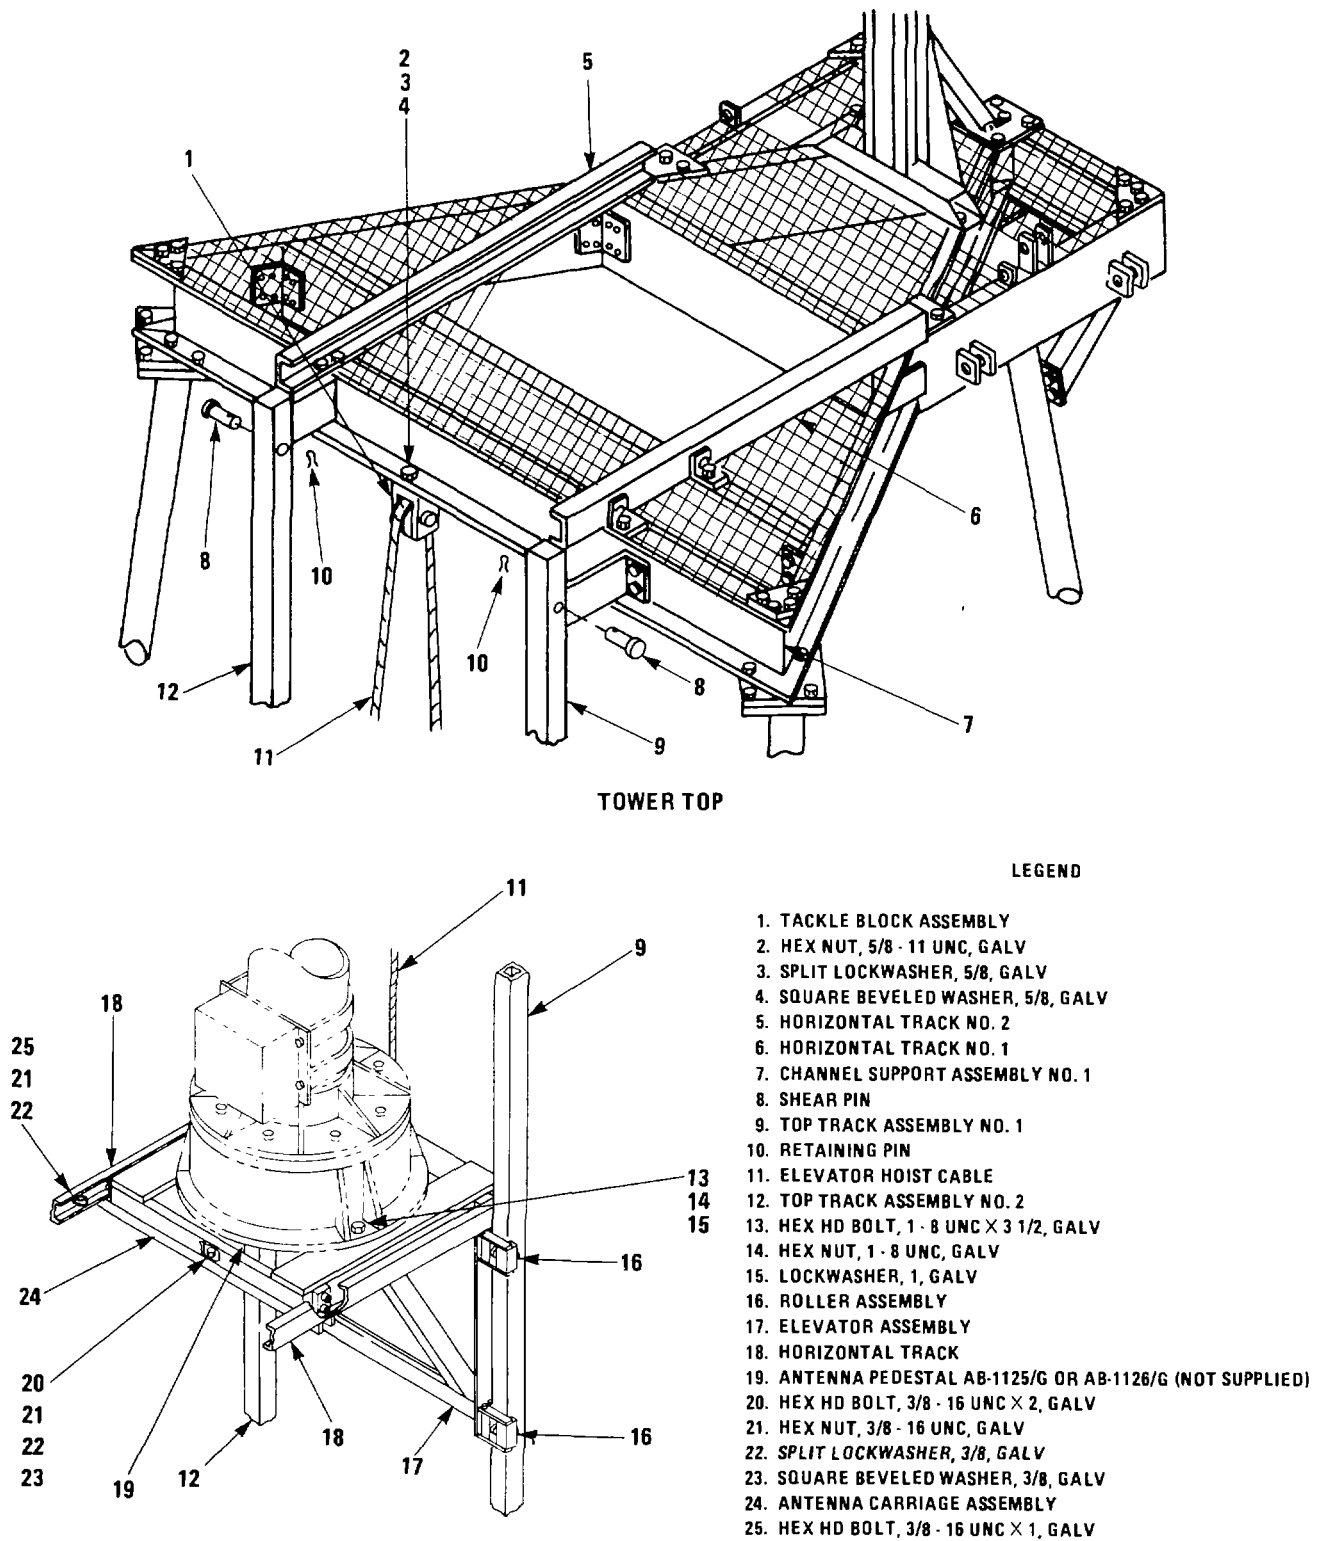
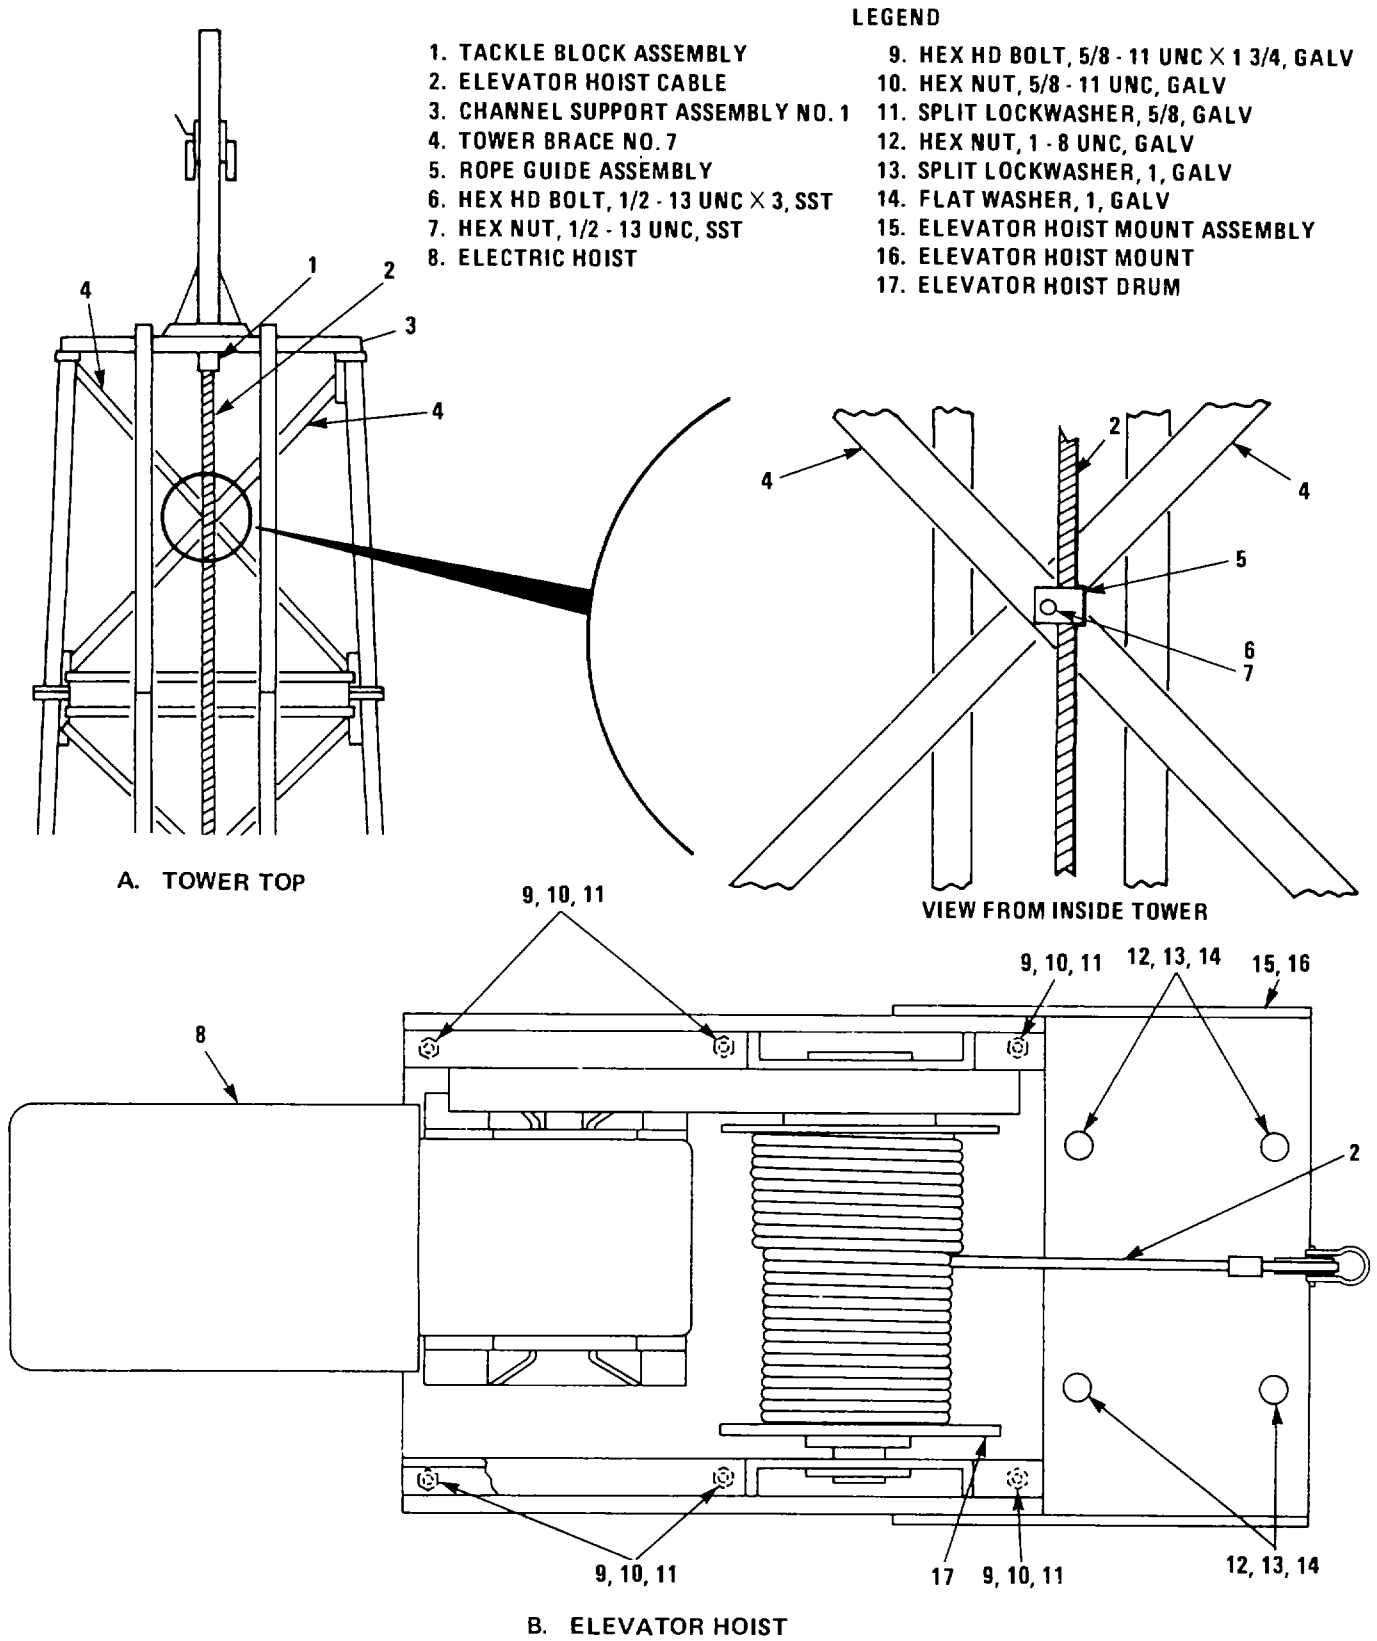
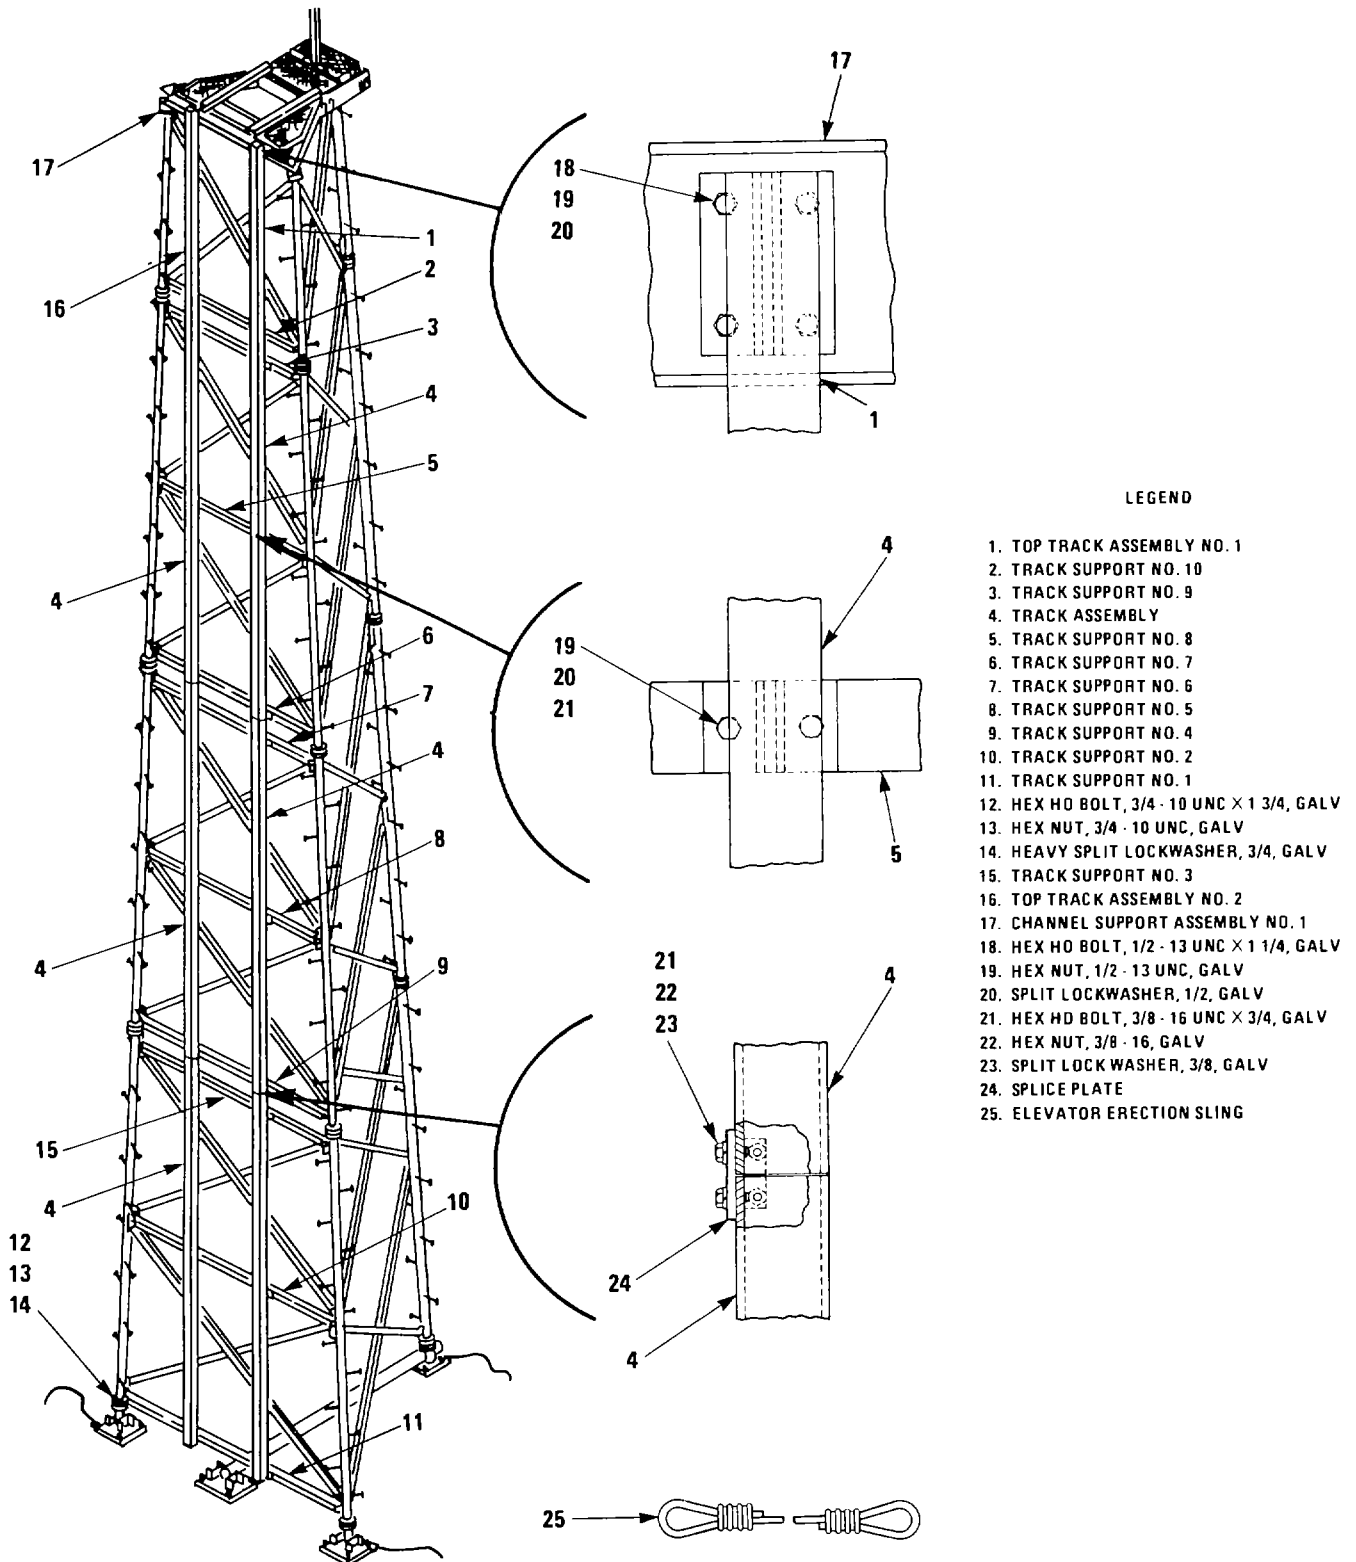

Figure 5-6. Elevator and Carriage Assemblies
Figure 5-7. Elevator Hoist, Cable, and Rope Guide Assembly
Figure 5-8. Elevator Tracks
*b. Antenna.* Item numbers that follow refer to figure 5-6, unless indicated otherwise.
(1) Install elevator assembly. Refer to paragraph 2-16d.
(9) Remove shear pins and retaining pins previously inserted. With elevator hoist, lower elevator.
(10) Remove remaining elements that must be removed before antenna can be detached from elevator. Raise and lower elevator when necessary. Use 20-foot ladder and tower leg ladders to reach antenna.
(11) Remove antenna and pedestal from elevator. Refer to TM 32-5985-201-15.
(12) If elevator is not to be used soon, remove elevator assembly and carriage. Refer to paragraph 2-18.
*c. Antenna Carriage Assembly.* Refer to figure 5-6.
(1) Remove two stop bolts (25), nuts (21), and lockwashers (22) from horizontal tracks (18) of elevator assembly.
(2) Detach carriage assembly (24) from elevator assembly (17) by removing six bolts (20), nuts (21), lockwashers (22), and square beveled washers (23).
(3) Have two persons roll carriage assembly (24) off horizontal tracks (18) of elevator assembly and disengage roller assemblies (16).
(4) Attach stop hardware to horizontal tracks (18) of elevator assembly with two bolts (25), nuts (21), and lockwashers (22).
*e. Elevator Hoist.* Refer to figure 5-7, unless otherwise indicated.
(1) Remove elevator assembly (paragraph 2-18).
(2) Have two persons work simultaneously to remove elevator hoist cable from tower. Have one climb tower leg B and the other tower leg C, each carrying a tag rope.
(3) Remove elevator hoist line from rope guide assembly (5), on crossover point of tower braces No. 7 (4), on tower section No. 4.
(4) Tie tag rope to elevator hoist cable (2) at point close to tackle block assembly (1) located on channel support assembly No. 1 (3) of tower adapter.
(5) Detach tackle block assembly (1, figure 5-6) from channel support assembly No. 1 (7, figure 5-6) by removing nut (2, figure 5-6), lockwasher (3, figure 5-6), and square beveled washer (4, figure 5-6).
(6) With tag rope, lower tackle block assembly and hoist cable to ground. Remove tag rope.
(7) To remove hoist cable from tackle block assembly, disassemble tackle block assembly, remove hoist cable, and assemble tackle block assembly. Refer to paragraph 2-16c, step (4).
(8) Wind elevator hoist cable (2) onto hoist drum (17). Disconnect hoist power.
(9) Remove six bolts (9), nuts (10), and lockwashers (11) that connect elevator hoist mount assembly (15) to elevator hoist mount (16). Remove elevator hoist (8) and elevator hoist mount assembly (15).
(10) Detach elevator hoist mount (16) from concrete pier by removing four nuts (12), lockwashers (13), and flat washers (14).
*f. Elevator Tracks With Tower Erect.* Refer to figure 5-8.
*g. Rope Guide Assembly.* Refer to figure 5-7. The rope guide assembly (5) is located at the crossover point of tower braces No. 7 (4) in tower section No. 4. Detach rope guide assembly by removing bolt (6) and nut (7).
- (6) Remove four nuts (19) and lockwashers (20) that secure tower support (6) to pier A and remove one flat washer (21) and ground wire assembly (22).
- (7) Lower tower.
- (a) With winch truck, start pivoting tower, and with tower hoist (3), restrain tower until it is horizontal.
- (b) As gin pole (5) and erection cable (2) come together, make erection cable (2) engage cable slot at top of gin pole.
- (8) Place blocks under legs B (12) and C (11) approximately 2 feet from top of tower section. These blocks must be able to support 2,000 pounds and should be high enough to keep tower horizontal.
- (9) Remove all truck winch and tower hoist rigging from tower.